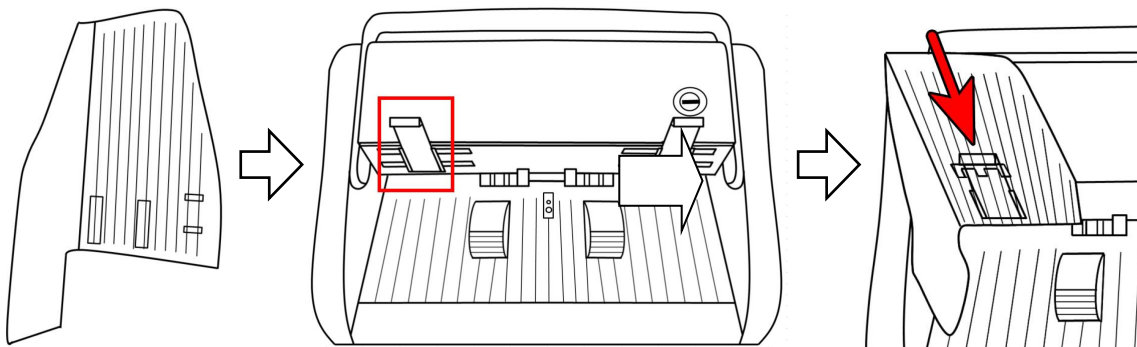

Figure 3
1) Take out the left Note Guide, install the click into the rail of the Note Guide, and press the Note Guide until you hear a clicking sound, it means the Note Guide is installed in position, as shown in the Figure 3.